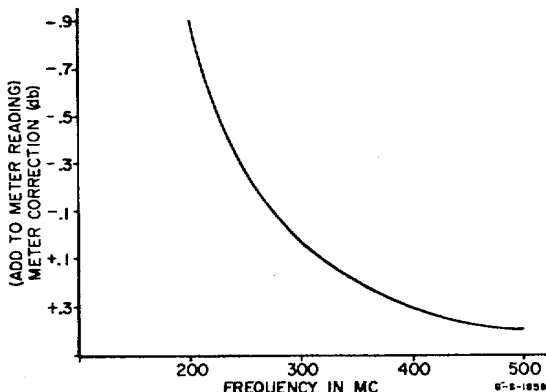

Figure 5-3. Model 349A Noise Source, Typical Correction for Hot-Cold Loss at Low Frequencies
c. At frequencies below 500 Mc refer to Figure 5-3.